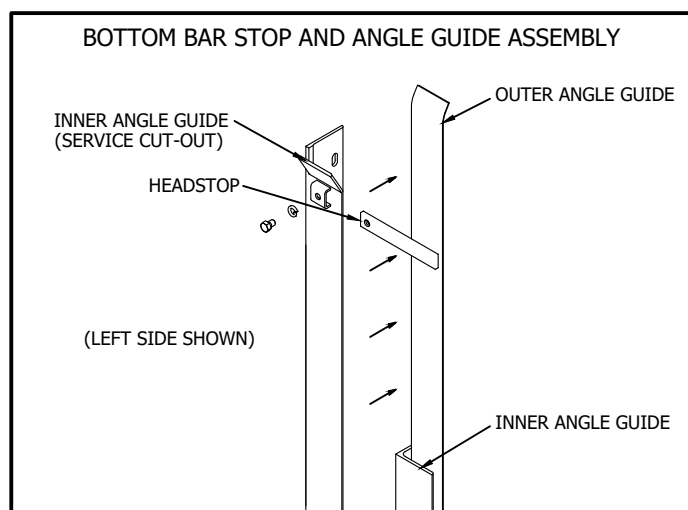

FIGURE 17
- b. Install the head stops to the service cut-outs. See Figure 17.
- i. Install guide service cutouts with previously installed head stops as shown in Figure 17.